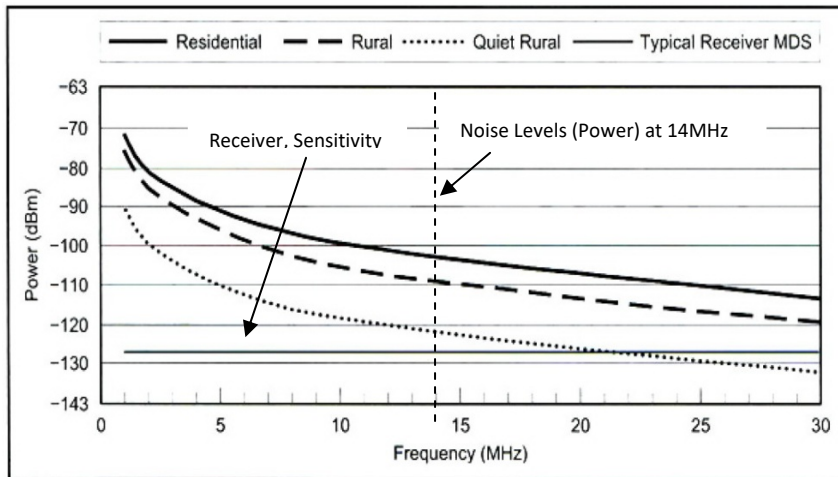

Figure 10: Type. External noise in urban areas (Residential, Urban) and in rural residential areas (Rural), Rec. ITU-R P.372-7, Radio Noise, ARRL Handbook
immunity of receivers. However, there is no IP3 for digital receivers because the course of the intermodulation cannot be calculated. Most manufacturers have recognized this problem and only specify the sensitivity (MDS) and the phase noise (SBN) for direct-sampling SDRs, but no IMDR3. The only important and decisive factor is that all IMD3 curves up to the limit are always below the residential noise (urban noise) or rural noise line (rural noise) drawn in the diagram (Fig. 10). If this is achieved, the IMD3 interference products are no longer audible/detectable when an antenna is connected (3). The FT-710 meets this requirement.